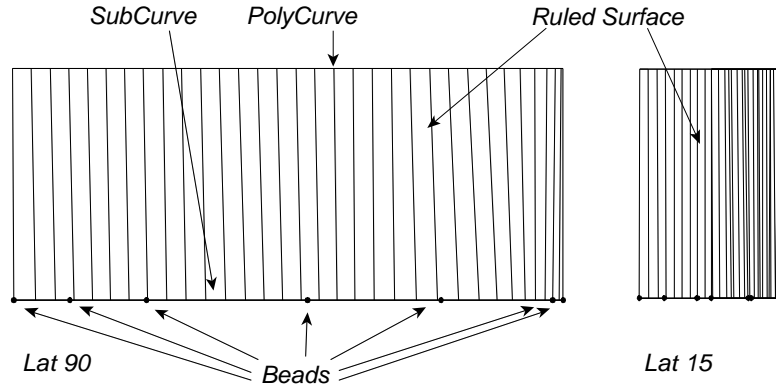

Fig. 11
- 9 **The surface has already changed.** To improve from this point, move the interior control beads to change the surface rulings to a more vertical orientation (Fig. 11). You can use any number of interior control beads to get the desired results. With Quick points it is easy to create these points so you can err on the side of too many and you will be sure you will have control you are looking for.